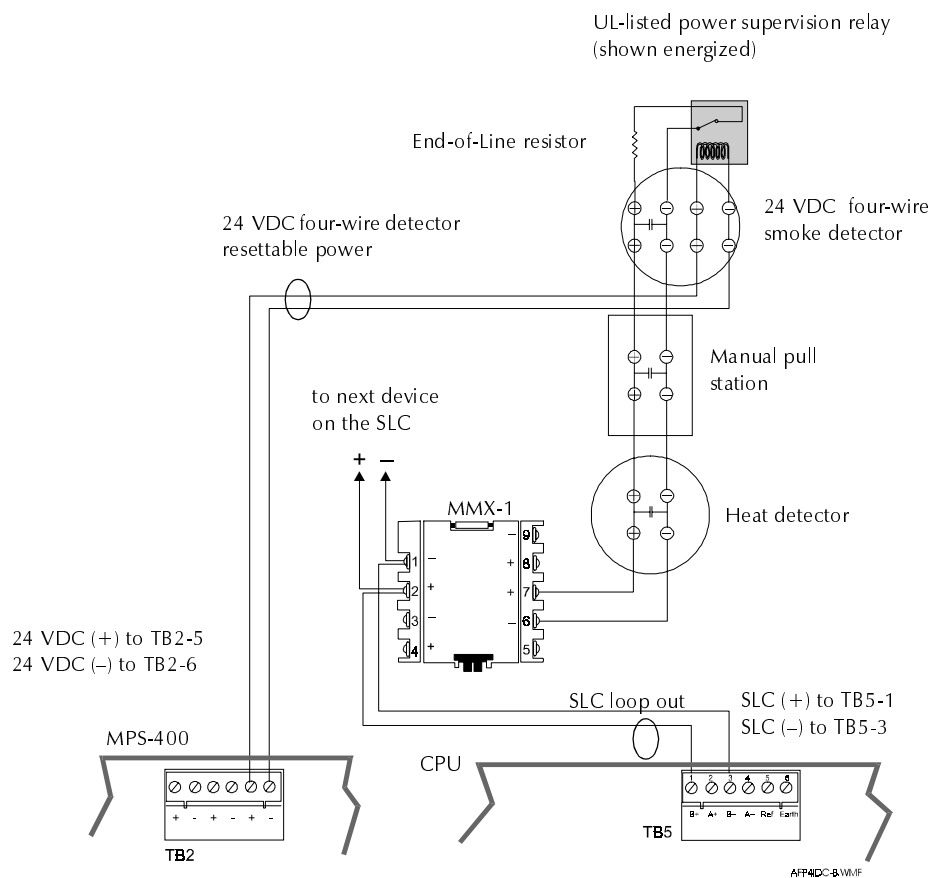
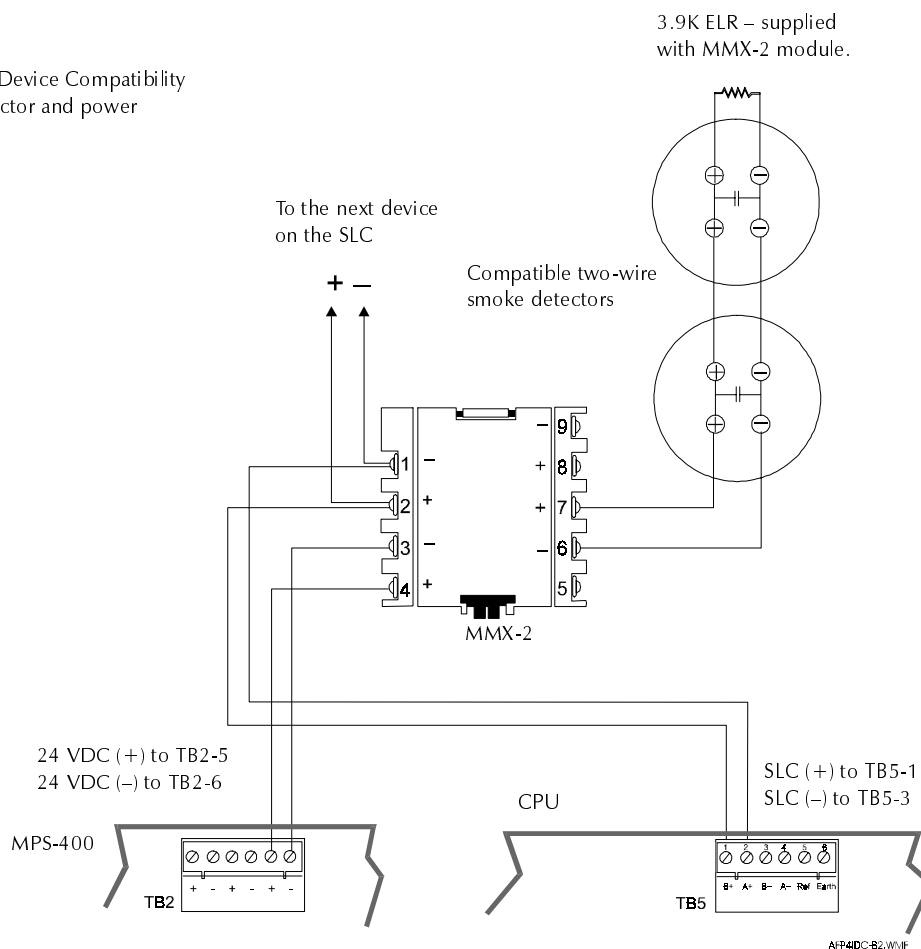

Figure 2-69 Typical Style B (Class B) IDC Wiring with MMX-1s
Figure 2-70 Typical Style B (Class B) IDC Wiring with MMX-2s
- NFPA Style B Initiating Device Circuit – see Figure 2-69 and Figure 2-70.
Figure 2-69 shows typical wiring using MMX-1 modules to wire a Style B IDC. Maximum IDC resistance is 20 ohms. Refer to the Device Compatibility Document 15378 for detector and power supervision relays.
Figure 2-70 shows typical wiring for a supervised and power-limited NFPA Style B IDC using MMX-2 modules. For more information, refer to the MMX-2 Installation Instructions, Document M500-03-00.